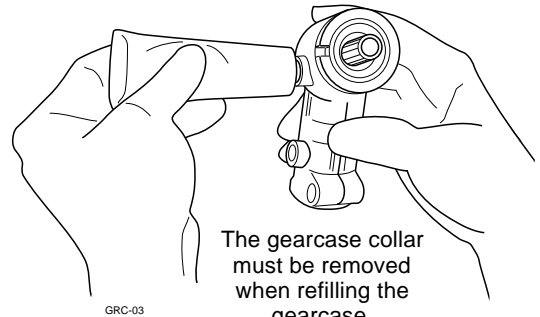

Figure 11.15 Refilling the gearcase.
STEP 1. Lightly coat the mainshaft splines with Shindaiwa™ lithium-based gearcase lube, then gently push the gearcase assembly onto the shaft tube (Figure 11.15).